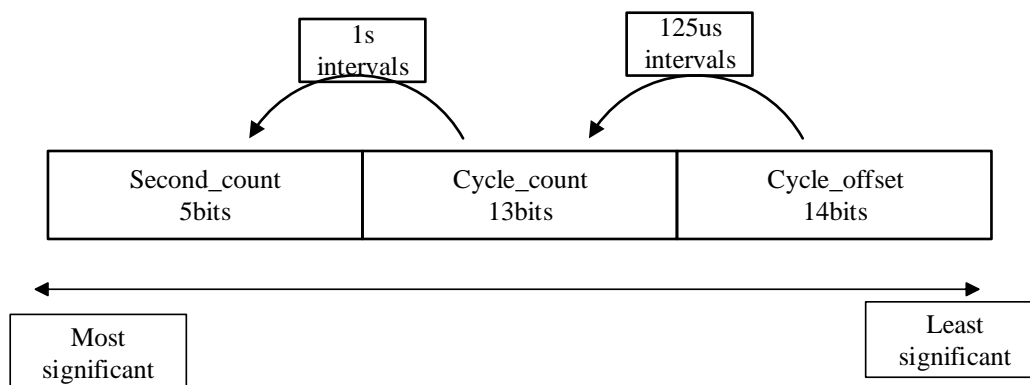

Figure 3-63 Timestamp Format
**Data format:** The data format of the timestamp is shown in Figure 3-63.